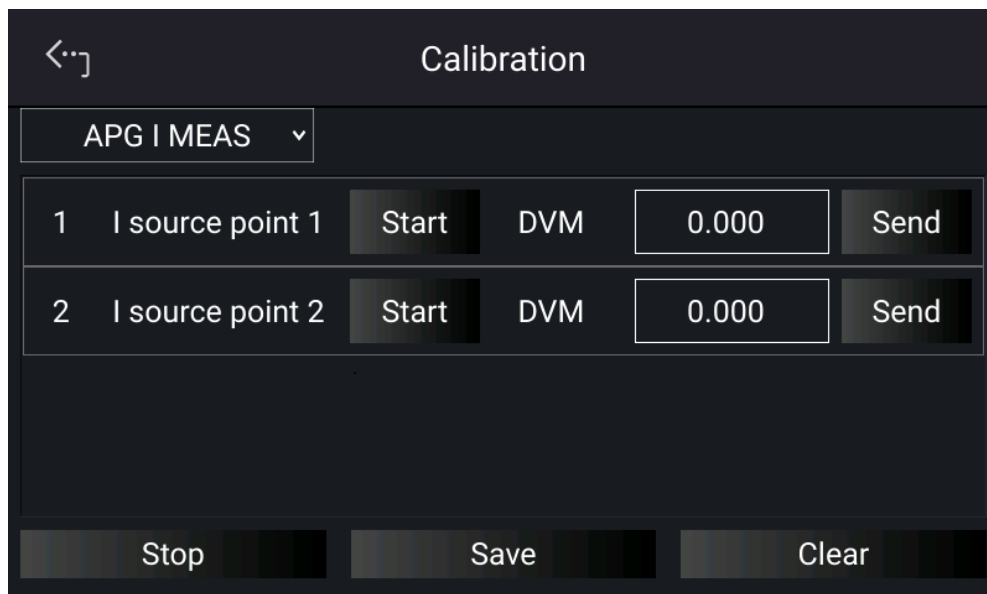

Figure 3-97
1. On the Calibration page, tap “Host V” to select APG I MEAS and list the APG current calibration items as shown in Figure 3-97.